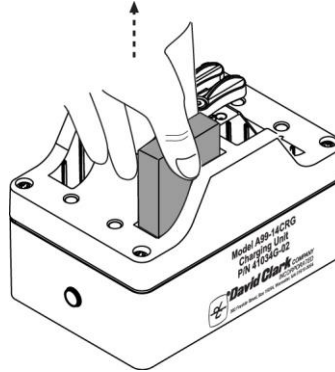

Figure 4
- b. Pull straight up as shown in **Figure 4**.